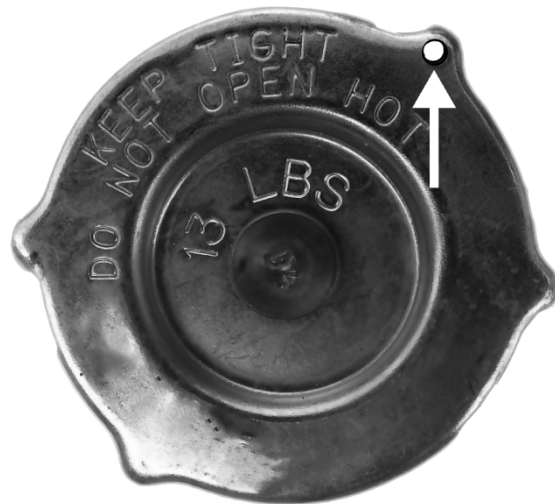

Figure 3 (image for reference only)
5. On the new cap head, drill a **3/16"** hole on one prong. Choose a similar location as the original cap. (Fig. 3)